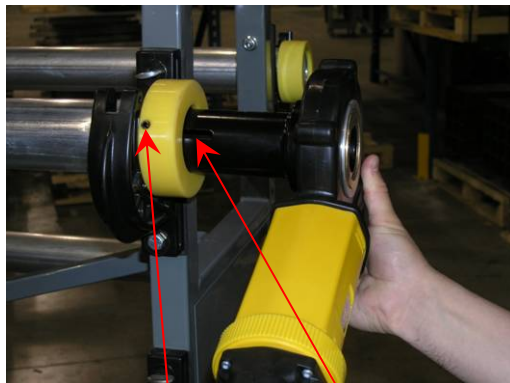

Fig 20.1
- 20.2 Line up the Pin with the slot in the PowerMate winder and insert in the end of the Cover Roller as shown on **Fig 20.1**. **Please refer to the PowerMate owners manual for safety instructions on using this power tool.**